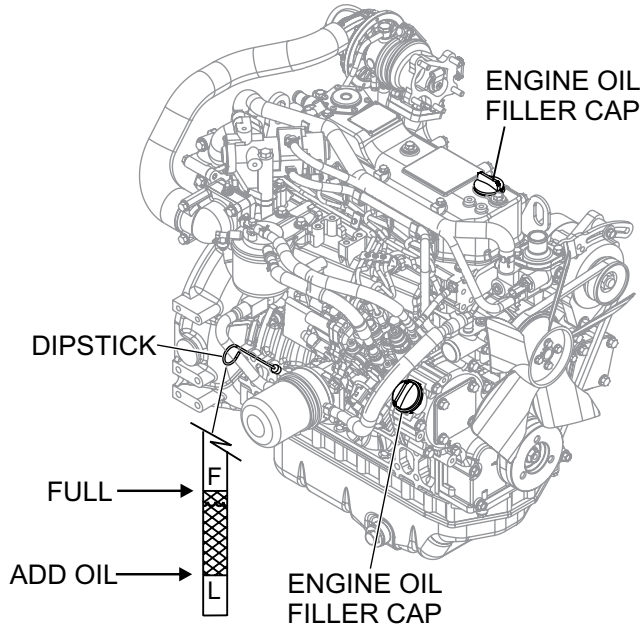

Figure 7. Adding Engine Oil
2. Remove the oil filler cap (top or side). See Figure 7.